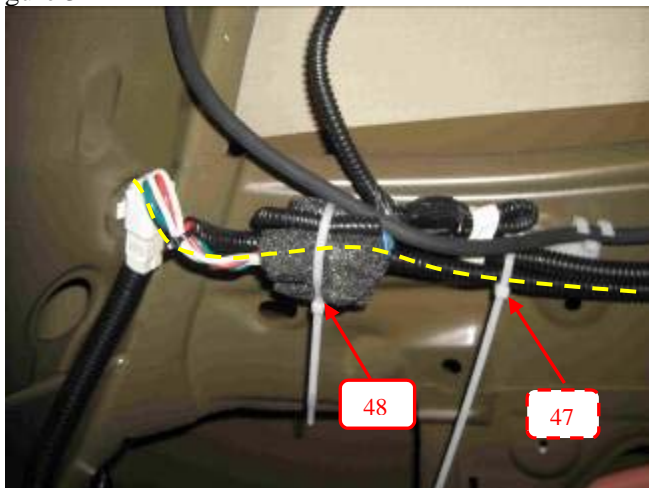

Figure 3-15
- d) Bundle the loose 4Pin connection and plastic junction block of the trailer wire harness to the vehicle wire harness and secure with wire tie #51 shown in Figure 3-15.
8" WIRE TIE x 1  (Figure 3-15)